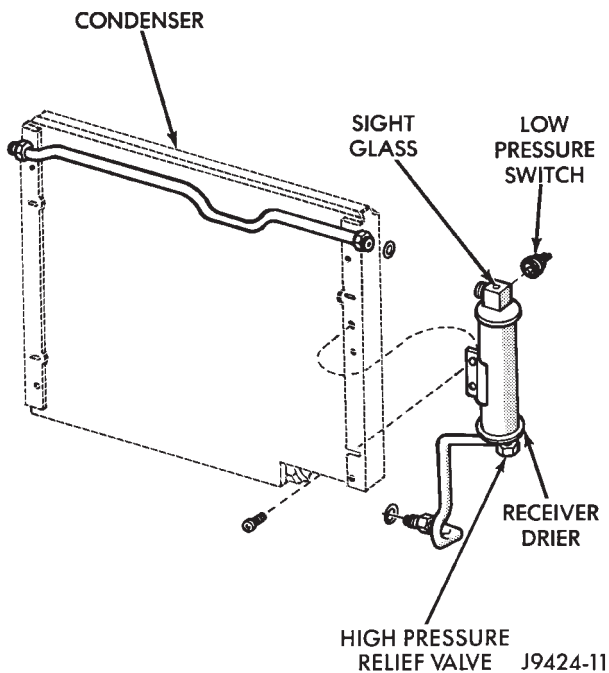

Fig. 21 Condenser Receiver Drier—2.5L Engine
- (1) Drain the radiator.
- (2) Disconnect the fan shroud and the radiator hoses.
- (3) Disconnect the transmission cooler lines (if equipped with automatic transmission).
- (4) Evacuate the A/C system. Disconnect the A/C hoses from the condenser.
- (5) Unplug the harness from the low pressure switch (Fig. 21).
- (6) Remove the radiator and condenser as an assembly.
- (7) Remove the retaining bolts and separate the condenser from the radiator.
- (8) Remove the receiver/drier from the condenser. **Keep receiver/drier openings plugged at all times to prevent moisture from entering the receiver/drier.**
- (1) Remove the plugs from the receiver/drier openings. Install receiver/drier into the condenser.
- (2) Install the condenser to the radiator. Tighten the retaining bolts.
- (3) Install the radiator and condenser as an assembly (refer to Group 7, Cooling System for the proper procedure).
- (4) Plug the harness into the low pressure switch (Fig. 21).
- (5) Connect the A/C hoses to the condenser.
- (6) Connect the transmission cooler lines (if equipped with automatic transmission).
- (7) Connect the fan shroud and the radiator hoses.
- (8) Add 30 ml (1 fluid oz.) of refrigerant oil to the system if the condenser was replaced.
- (9) Fill the cooling system.
- (10) Charge the A/C system.